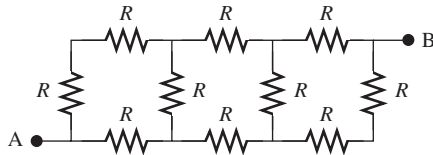

FIGURE P3.15 Circuit for Problem 3.15.
3.15 (H)* Each segment in Figure P3.15 represents a resistor R . Find R_{AB} , that is, the resistance between terminals A and B. (*Hint*: Let a current source I connect terminals A and B, and find the current through each resistor by symmetry of the circuit.)